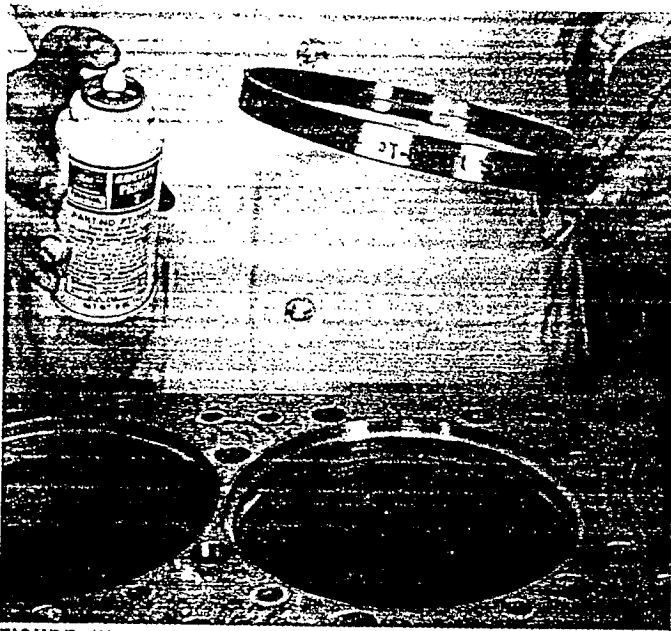

FIGURE 17
1. Clean bore and bushing outside diameter thoroughly with PT 7270 Primer T. (See Figure 17.)